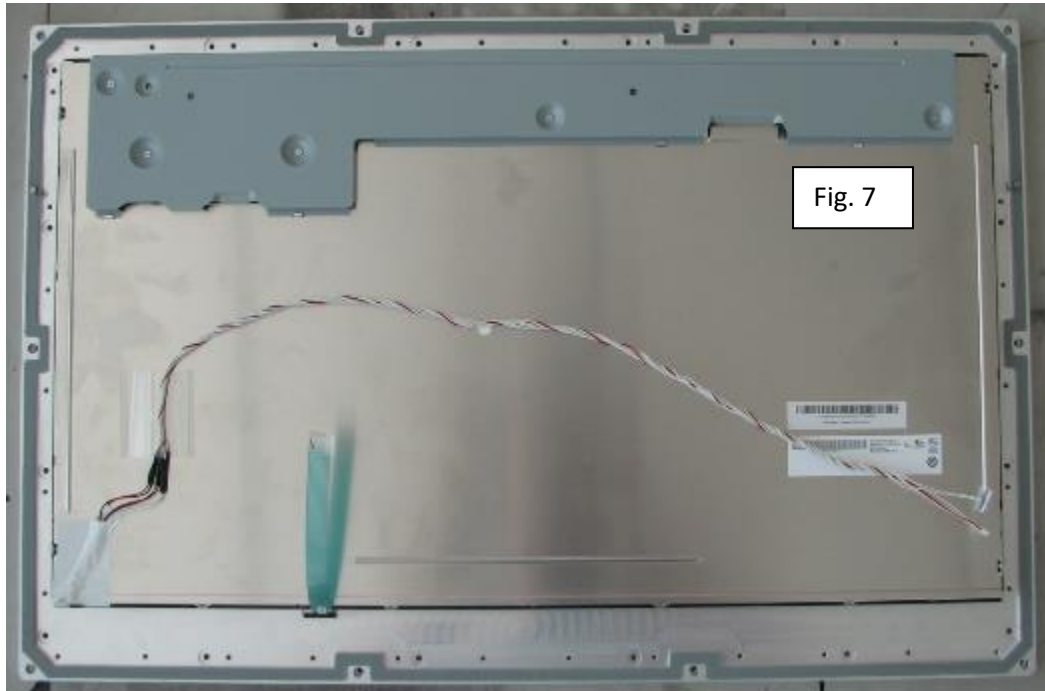

Fig. 7
- 2.12 If the LED cable is supplied with the panel unattached, then fit as seen within figure 7.